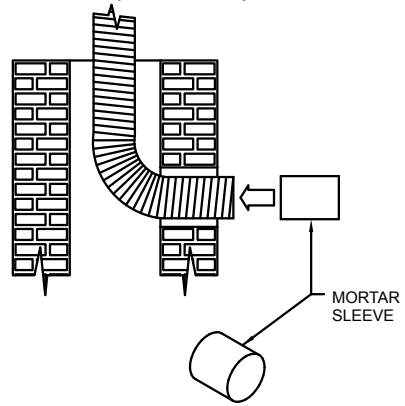

Figure 7
**Step 6.** Slide the Mortar Sleeve over the DuraFlex Liner, until the Mortar Sleeve is flush with the wall of the chimney, as shown in **Figure 7** Once the Mortar Sleeve is in place, the